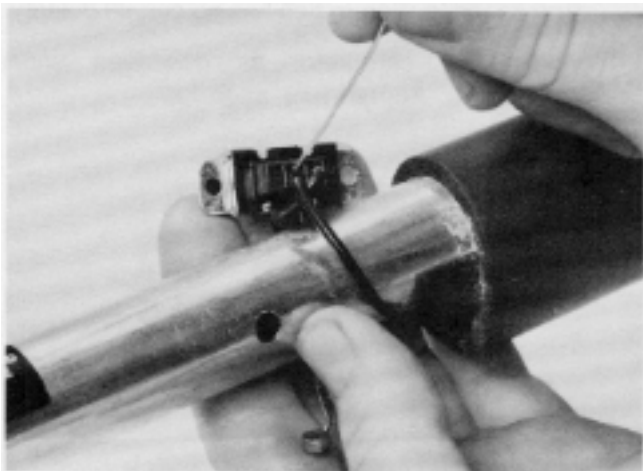

Figure 109
3. Disconnect the switch wires from the switch by inserting a small diameter drill or small wire into the release holes located in the bottom of the switch. See Figure 109.